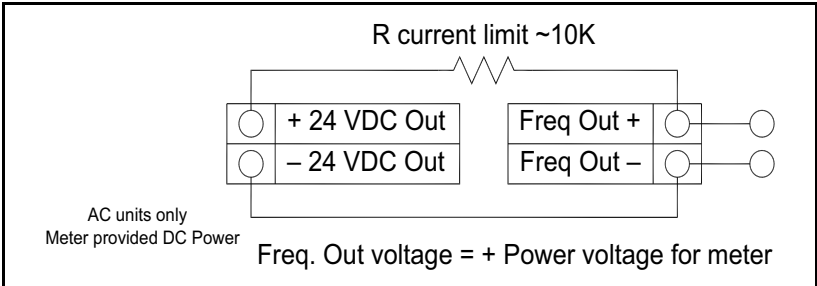

Figure 37: Isolated Frequency Output Using Meter-Provided Power Supply
- For AC powered meters only, use the internal 24 VDC power supply (see *Figure 37 on page 41*). Use this option if the voltage of the frequency output is the same as the voltage supplied to the circuit.